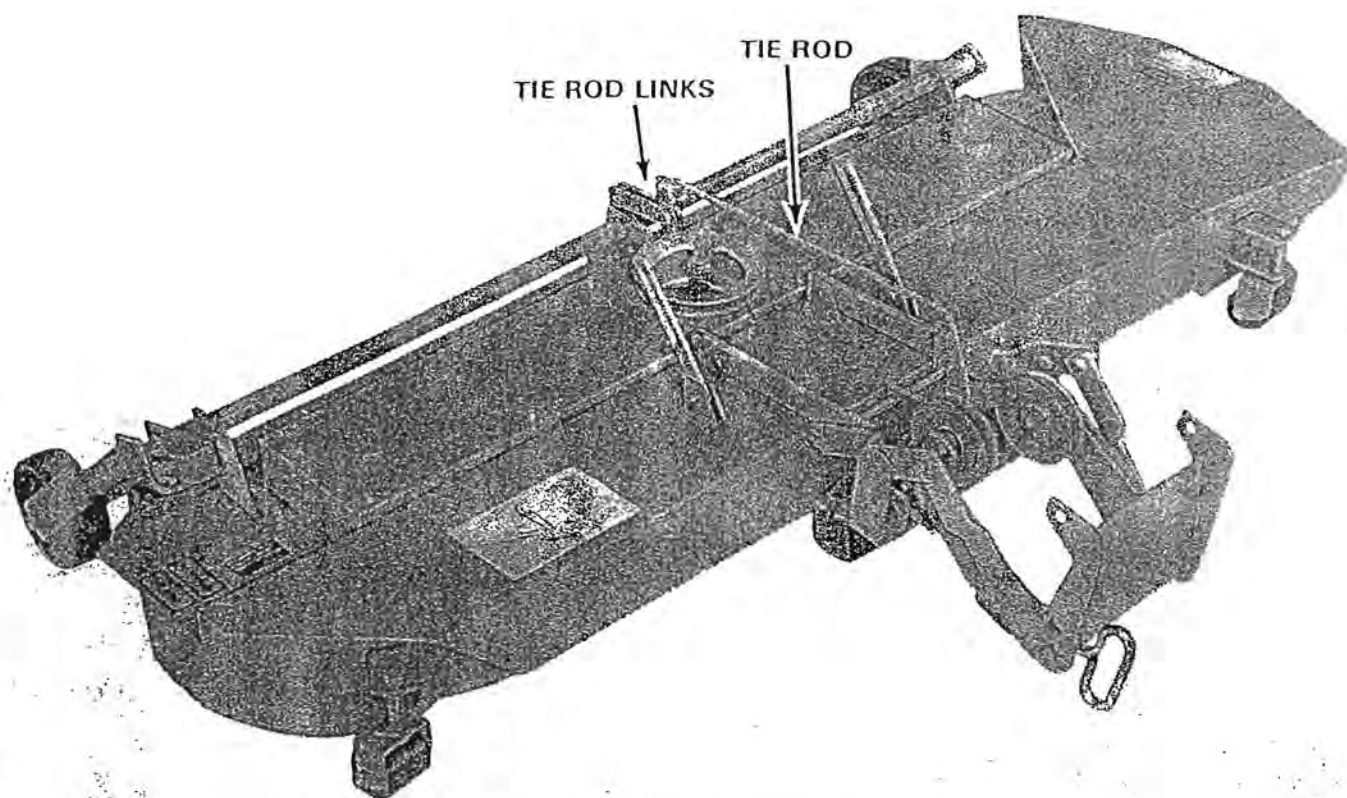

FIGURE 16 Mower - Assembled
2. Do not assemble the mounting bracket to the lawn mower deck as shown in Figure 16. It is easier to first position the deck under the tractor, then install the mounting bracket.
3. Assemble the 3 tie rod links to the tab on the gauge wheel axle as shown in Figure 16.